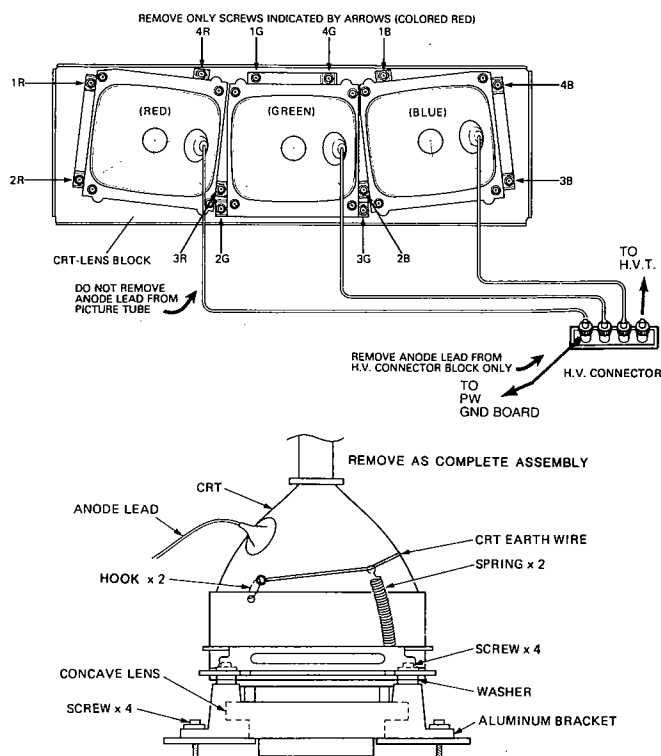

Fig. 17 — Picture Tube Assembly
5. Remove four (4) Hex head (+) screws with red marking (one (1) at each corner of picture tube/lens assembly (Fig. 17).